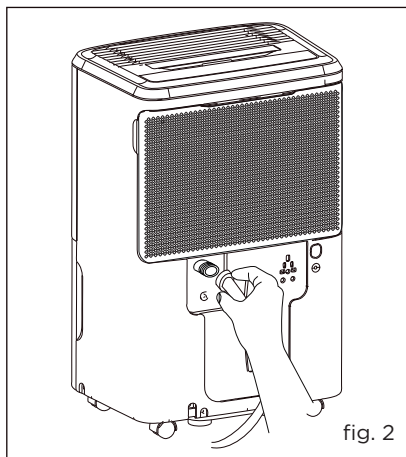

fig. 2
- c. Insert the female threaded end of the hose onto the drain connector of the unit. (fig.2)